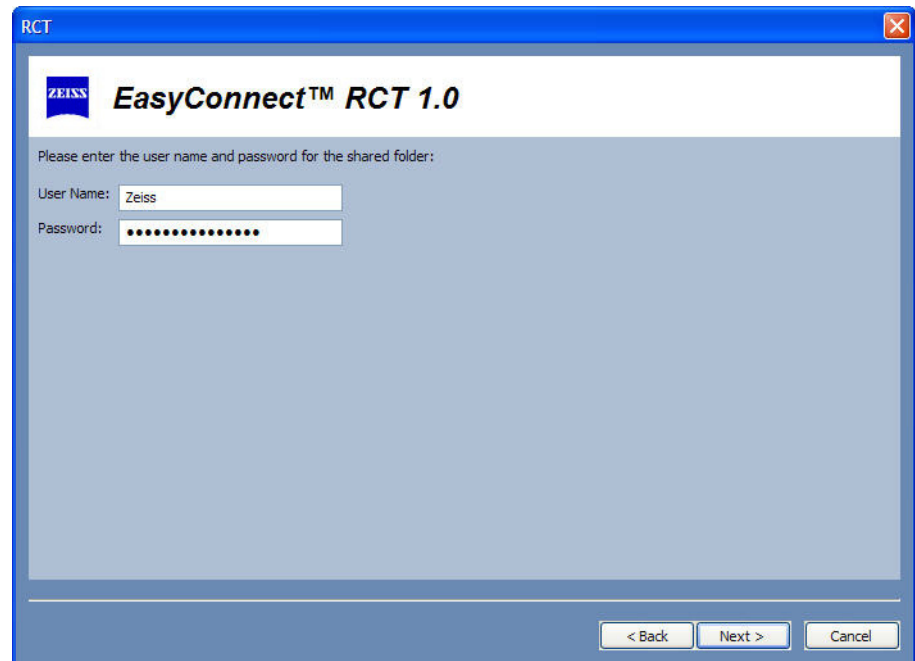

Figure G.32 Enter User Name and Password for the Share
- 8 The RCT will prompt for the User Name and Password of the shared folder (or printer) (Figure G.32). The default RCT User Name is "Zeiss" and the default RCT Password is "November171846." Accept the default or enter another user name and password and then select NEXT to continue.